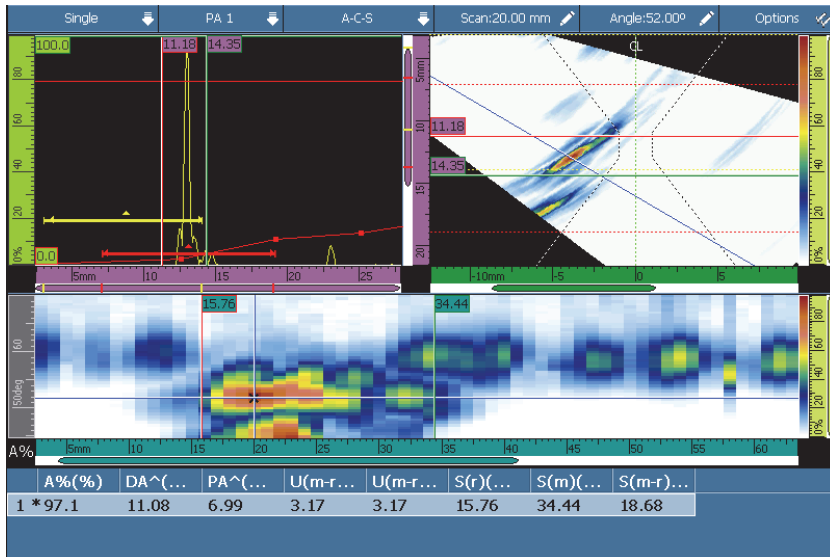

Figure 6-11 Example of an indication table
1. In the title bar menu, select **Options > Indication Table** to display an indication table at the bottom of the data view (see Figure 6-11 on page 169).